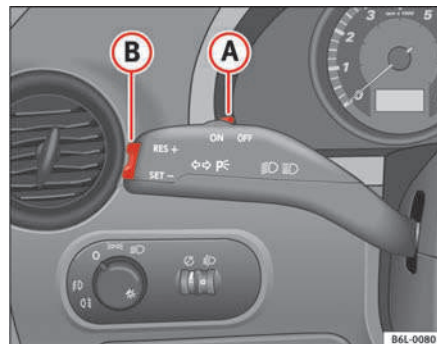

Fig. 103 Turn signal and main beam headlight lever switch and rocker switch for the cruise control
- Press the lower part **SET** of the rocker switch ⇒ fig. 103 **B** once briefly when you have reached the speed you wish to set.